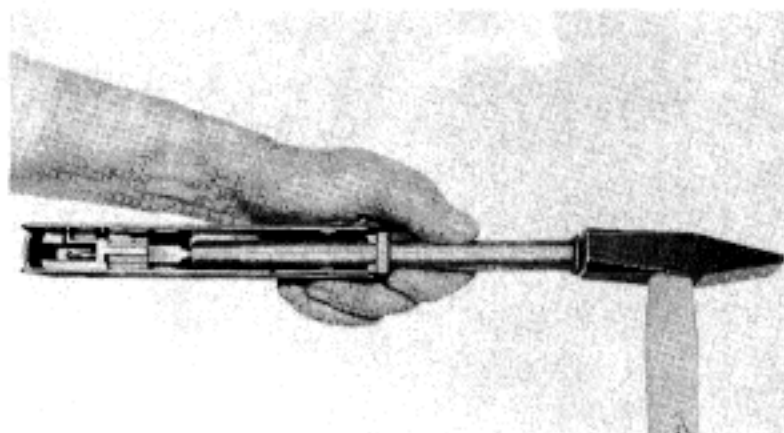

Fig. 15
| 5    | Assembly mandrelØ 16 x 200    | for bolt head carrier (7) in the slide, Fig. 15                                                                                                            |
- Insert the bolt head carrier into the slide, drive it slightly to the rear with a copper mandrel dia. 15 mm, and introduce the firing pin complete with compression spring (Fig. 15).